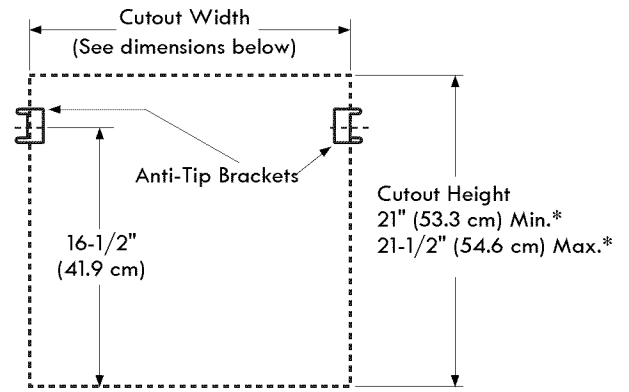
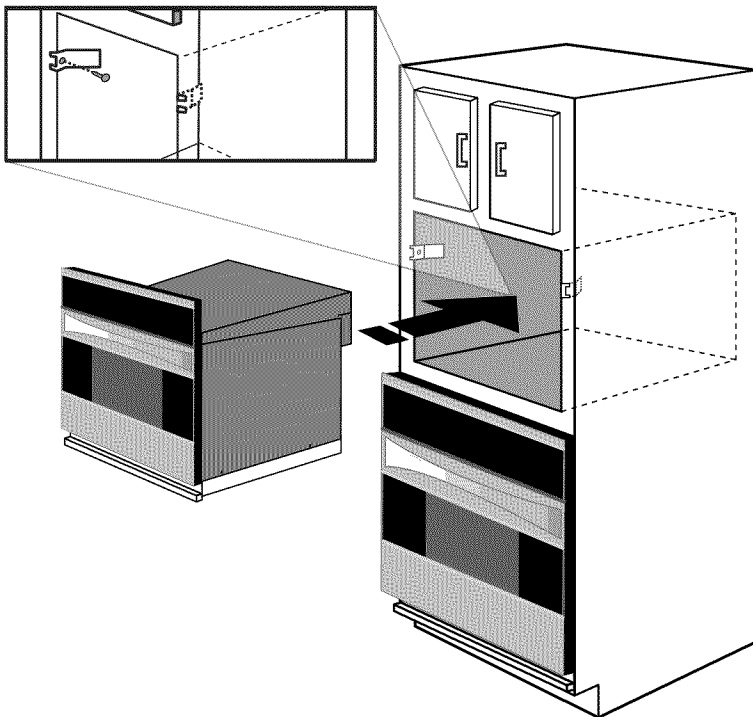

Figure 3
Figure 4
2. Install the Anti-Tip bracket in the cabinet as shown on Figure 3. **Note:** To prevent damage to cabinet, it is recommended to drill $\frac{1}{16}$ " (0.16 cm) diameter pilot holes before installing the Anti-Tip brackets.
- Place the oven adjacent to the opening on a table or stand. Plug the power supply cord into the electrical outlet. Carefully guide the oven into the prepared opening. Avoid pinching cord between oven and wall. See Figure 4. Push the unit in and against the cabinet. The oven side bracket will clip into the Anti-Tip brackets. See Figure 3.